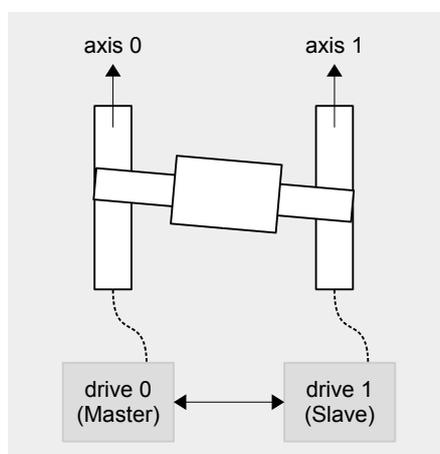

Figure 3.2.1
- A. Connect to the left servo drive in figure 3.2.1 and set Pt00D = 0x□□□1 (define it as master).
- C. Connect to the right servo drive in figure 3.2.1 and set Pt00D = 0x□□□0 (define it as slave).